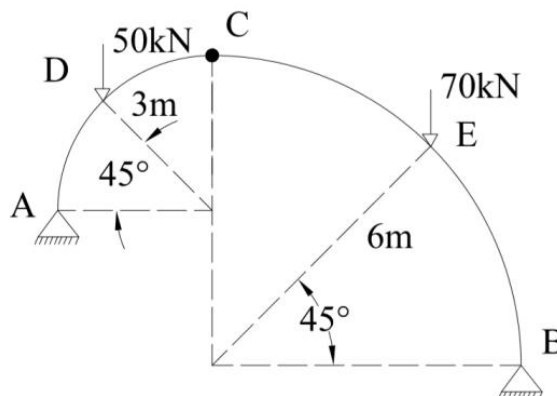

Fig.5
- (b) A three hinged arch consist of two quadrantal parts AC and CB of radii 3m and 6m respectively as shown in Fig. 5. For the load system acting on the arch, calculate the reactions at the supports and the bending moments under the loads.